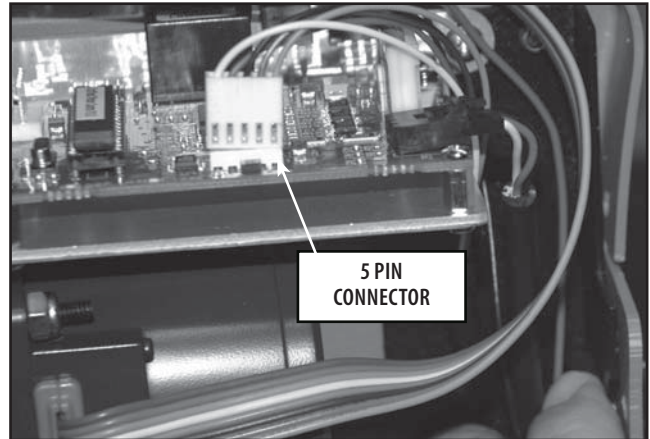

FIGURE 6.20
4. Disconnect the 5 pin connector from the Control Board. **Refer to Figure 6.20.**